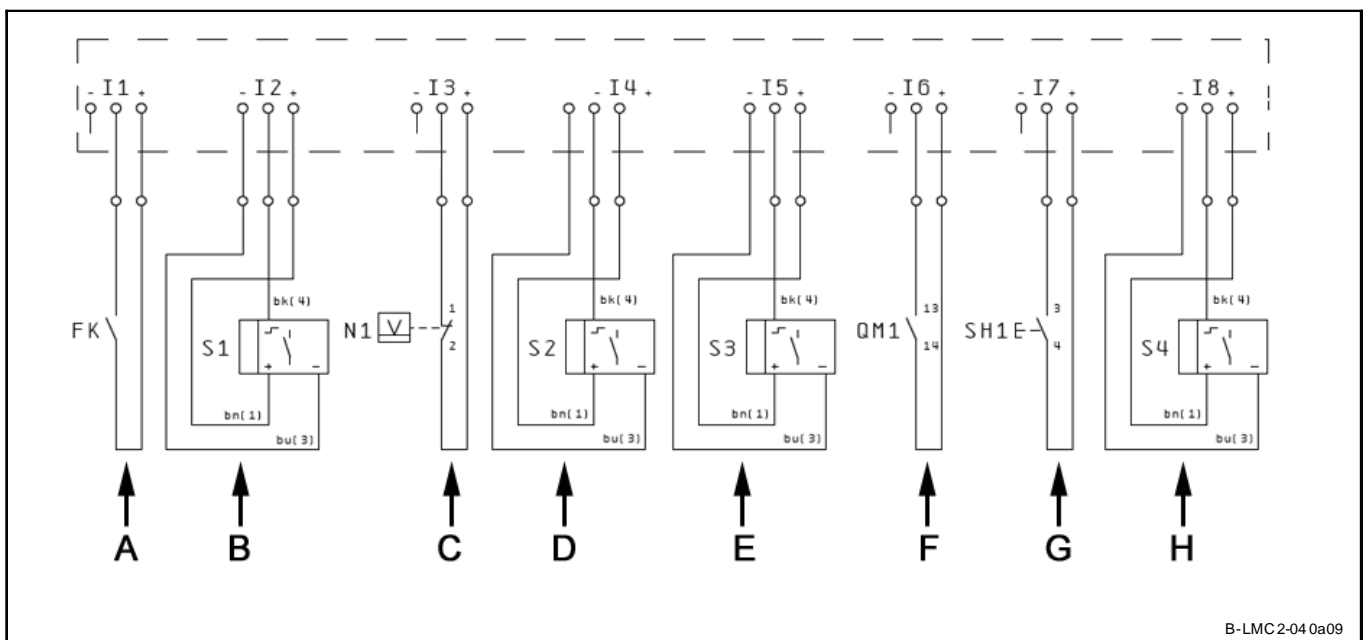

Fig. 12a Signal input connection
| I1-I8 - Signal input (see Fig. 12a) | Q1-Q5 - Controller output, actuator (see Fig. 13a) |   |
- On up to 3 tracks the rail sensors D, E & H (Fig. 12a) detect the number of passing axes.
- The stop contact A (Fig. 12a, e. g. rain sensor) allows to interrupt counting of the axes (pause time) as well as to interrupt the lubricating time. Later, operation continues from the point of interruption.